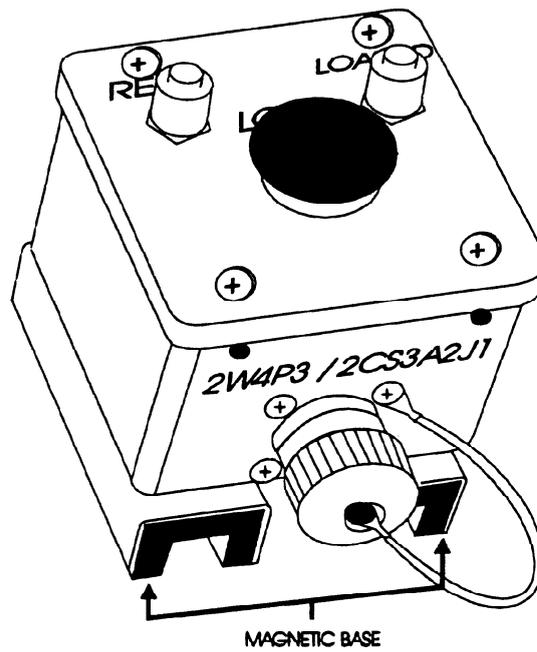

Figure 2-50. Loader's Breech Switch
2.4.7.4.2.2 Loader's Breech Switch Installation. The Loader's Breech Switch assembly (see Figure 2-50.) mounts magnetically on the rear face of the breechblock as follows: